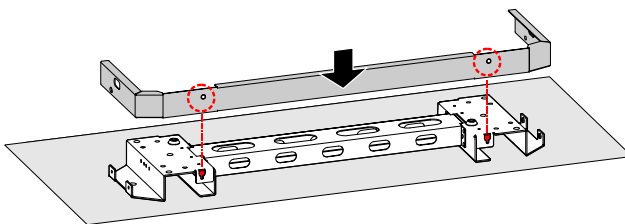

Figure3-15 Install the cover plate
3. Fix the assembled base by expansion bolt M10, as shown in Figure3-15.